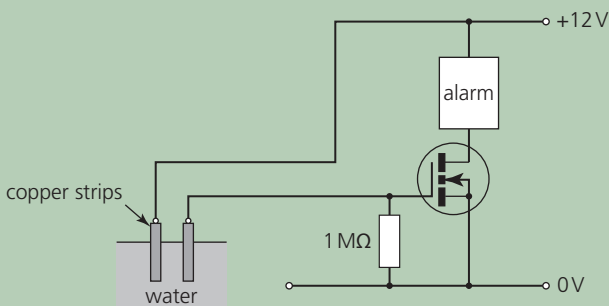

Figure Q1
Figure Q1 shows an n-channel enhancement mode MOSFET, being used as part of a circuit for the water level alarm in a garden pond. When the gap between the copper strips is filled with water, the MOSFET turns on and the alarm sounds.
- c. The circuit is tested by immersing the copper strips in the water, and bringing them closer together until the alarm sounds.  $V_{th}$  for the MOSFET in Figure Q1 is  $2.4\text{ V}$ .